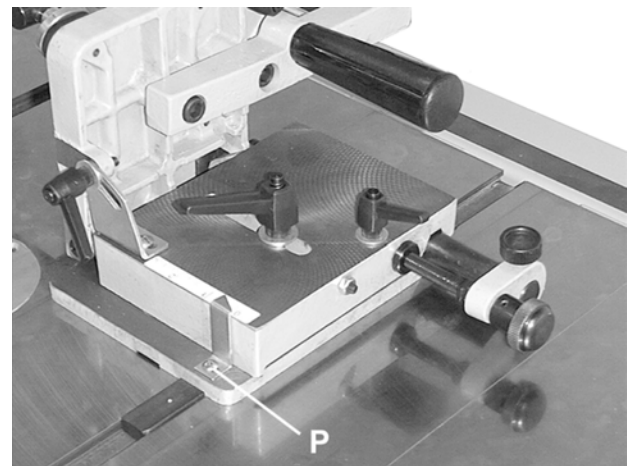

Figure 7
- For a final adjustment, loosen screw (P) holding the pointer and adjust pointer to the 1/8" position. See Figure 7. Tighten screw.